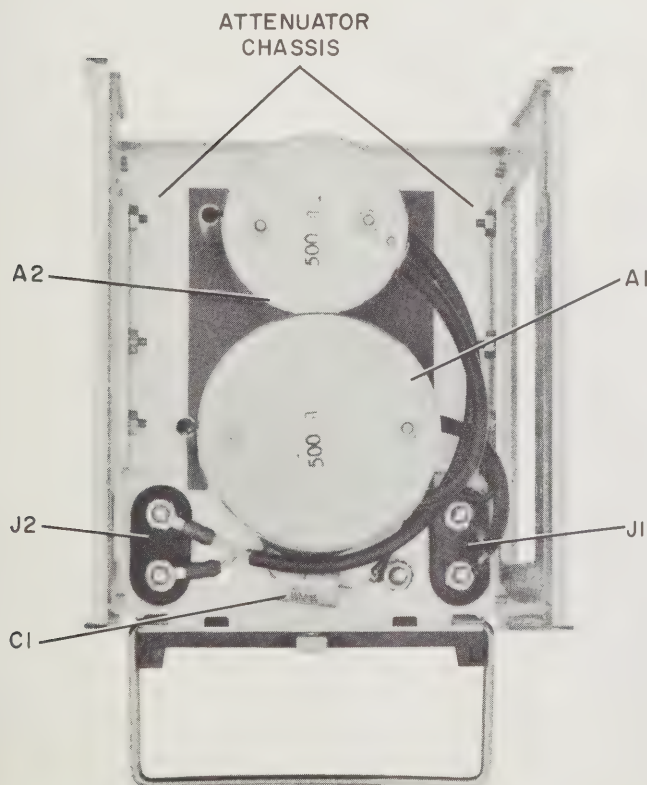

Figure 5-2. Model 350C/D Rear View (Rear Panel Removed)
5-7. Figure 5-2 illustrates the Model 350C/D with rear panel removed and identifies the components and assemblies. To remove the attenuator assemblies, proceed as follows:
- c. Disconnect coaxial cables from connectors J1 and J2 (see figure 5-2). Mark cables for proper reinstallation. Remove capacitor C1 lead from ground lug.
- d. Remove flathead screws which fasten attenuator chassis (see figure 5-2) to instrument side castings. Remove attenuator chassis from instrument frame.